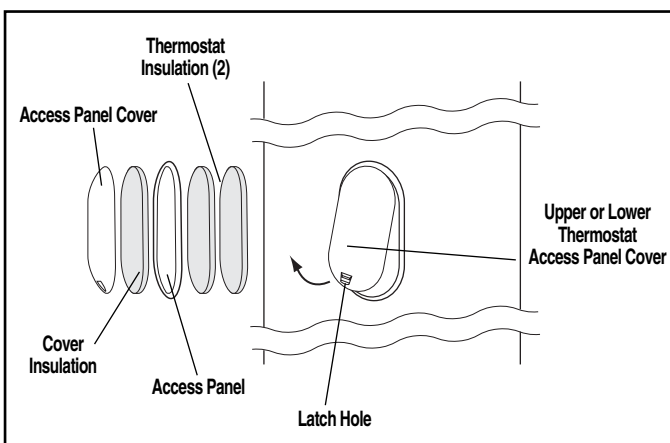

Figure 17 — Removing Access panel for replacement of element.
- Remove the thermostat snap-in access panel cover. Insert finger into latch hole on the bottom of the cover, and push up to release the latch. Then pull forward to remove the cover and insulation. Remove the four (4) screws securing the thermostat access panel and the two (2) thermostat insulation pads, exposing the thermostat. (See Figure 17.)